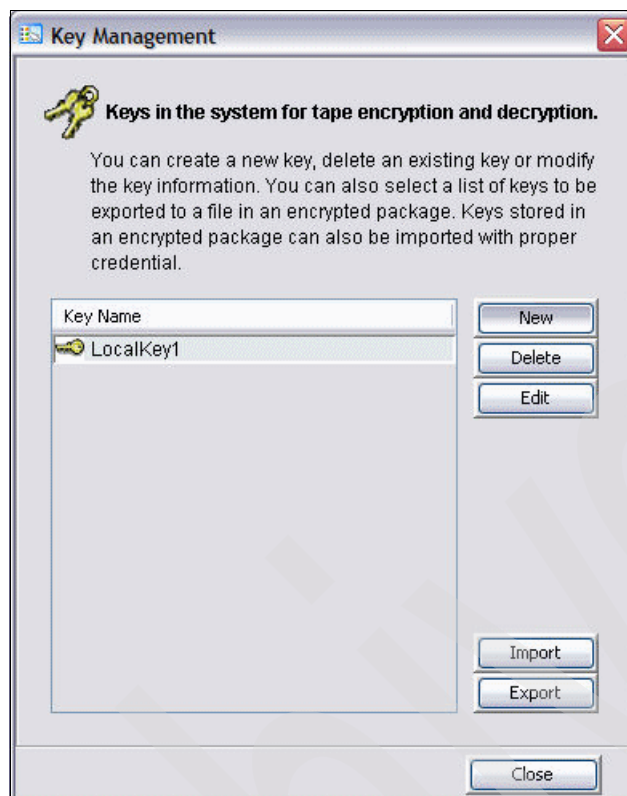

Figure 7-24 Key Management window with one key
4. In the window shown in Figure 7-24, click **OK**. Your new Key Name is displayed on the Key Management window.